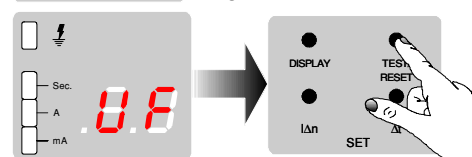

Fig. 5
- If the applied supply voltage is < 70% of Un (typical), the unit will not operate and the display shows the following characters as in Fig.5. During this condition and assuming the supply is also > 50% of Un, the lamp connected to the fault level output will flash. After the correct voltage has been established, the unit will revert to normal operation.